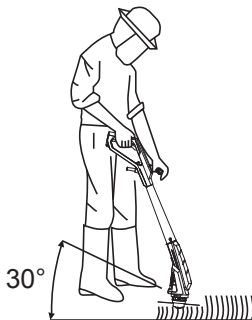

Fig. 8
4. Hold the trimmer head (10) just above the ground at an angle of approximately 30° (Fig. 8).